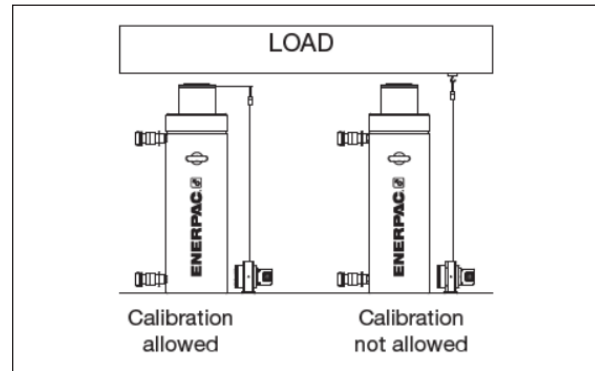

Figure 17: Calibration conditions
2. Cylinder Calibration Selection: The user must set if the calibration is going to be carried out or not, depending on how the stroke sensor is placed. Refer to Figure 17 for further detail.